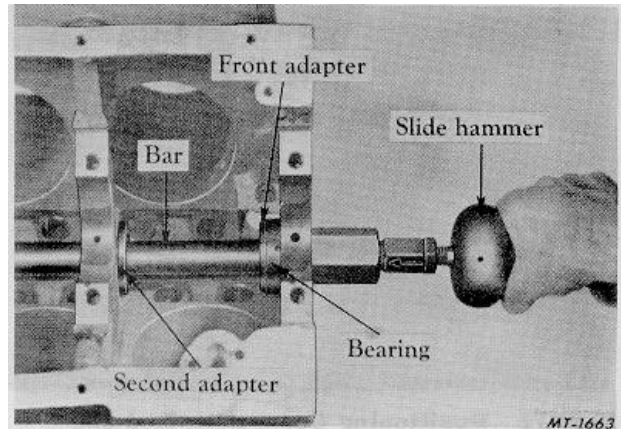

Fig. 69 Removing Front Bearing
10. Remove the "C" washer and use the second adapter as a pilot. Remove the front bearing by driving the bearing into the block, Fig. 69.